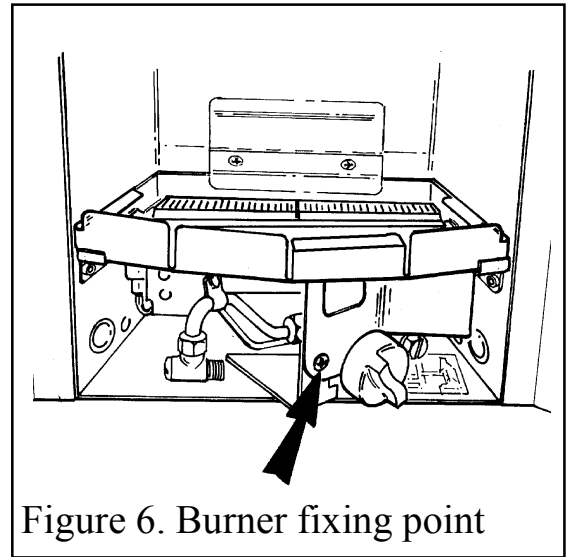

Figure 6. Burner fixing point
- The burner assembly is retained by one screw set in the front leg - See Figure 6. Remove the screw and carefully remove the burner assembly by lifting and sliding forward from the firebox. The burner is produced from a soft ceramic material and should be handled carefully.